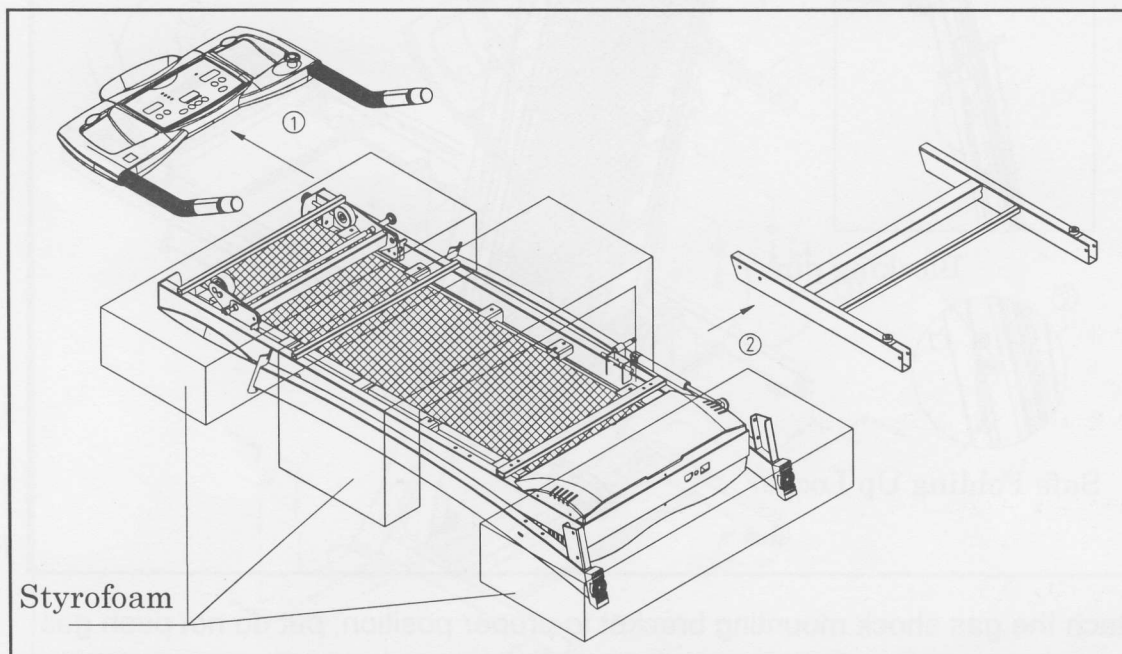

Fig.1
1. Please remove electronic package, and bottom post bracket from box. (See Fig. 1)